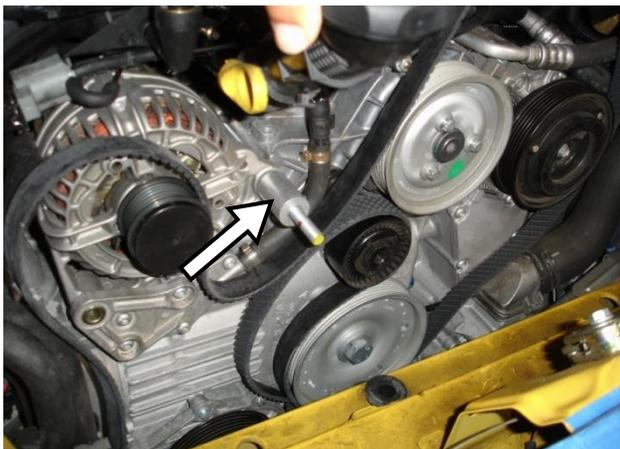

Figure 22
- Install the supplied stud and spacer supplied in the kit onto alternator's right side mounting hole (figure 22).